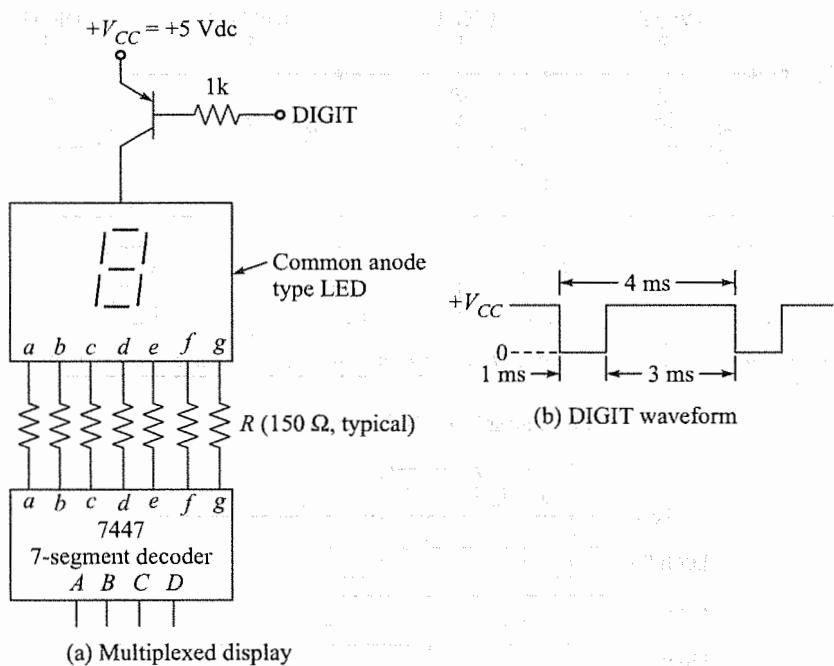

Fig. 15.3
**Example 15.2** The circuit in Fig. 15.3 shows how to multiplex a common-anode-type display. Show how to multiplex a common-cathode-type display.